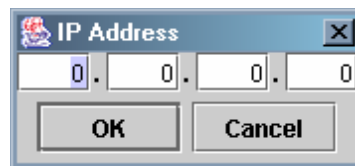

Figure 120 SANsurfer iSCSI HBA Manager, Target Settings, IP Address dialog
- ◆ To add your target, click the green + on the right side of the **Target Settings** tab to get the **IP Address** dialog, as shown in Figure 120. Enter the IP address of your target port, and click **OK**.